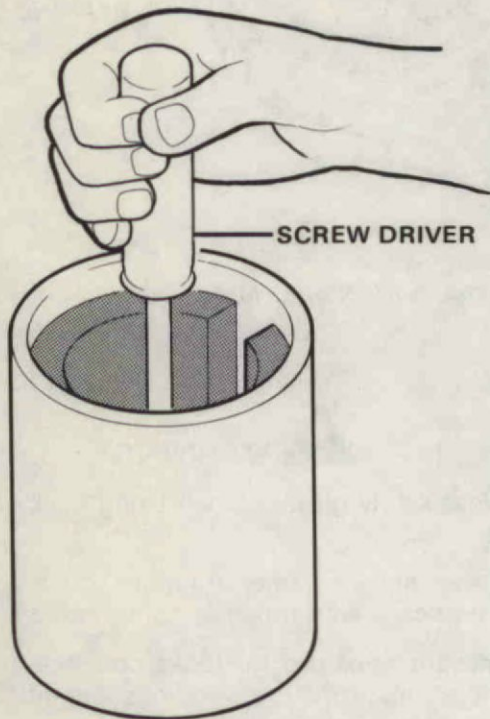

Figure 56. Testing Permanent Magnets in Starter Housing.
- 1. Hold screwdriver inside housing. Magnets should attract screwdriver strongly. Figure 56.